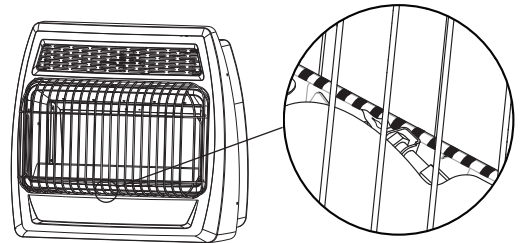

Fig. 24 - Pilot Flame Location
6. With control knob depressed, push down on the ignitor button until the pilot lights. The pilot is visible centered below the main burner, behind the front grill (See Fig. 24)
7. Keep control knob depressed for (30) seconds after pilot lights. Release control knob.